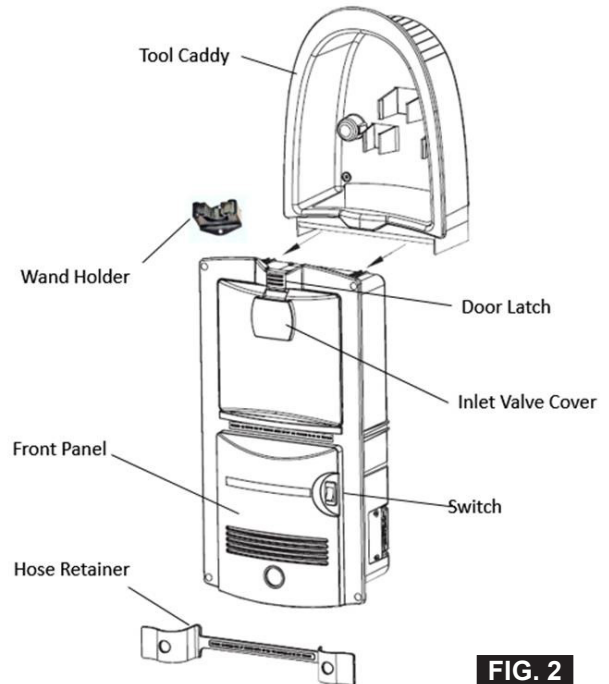

FIG. 2
6. Remove the GarageVac from the wall and attach the tool caddy by sliding the "dove tails" on the bottom of the caddy into the grooves on top of the unit. You will hear a click when the pin on top of the housing clicks into the corresponding hole on the tool caddy. See FIG. 2.
10. Remove GarageVac from the wall, and attach the tool caddy by sliding the "dove tails" on the bottom of the caddy into the grooves on top of the unit. You will hear a click when the pin on top of the housing clicks into the corresponding hole on the tool caddy. See FIG 2.
1. Remove the vacuum cleaner door by pushing the door latch up. See FIG. 2.
1. Lift up the inlet valve cover on the front door panel. See FIG. 2.